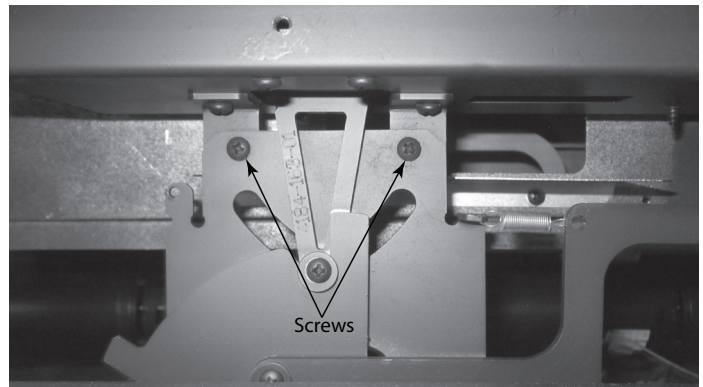

Figure 4.29 Removal of Screws
5. While holding on to the timer assembly, remove the two (2) screws, Figure 4.29 and slide the linkage arm off of the rod and pull the assembly out of the front.